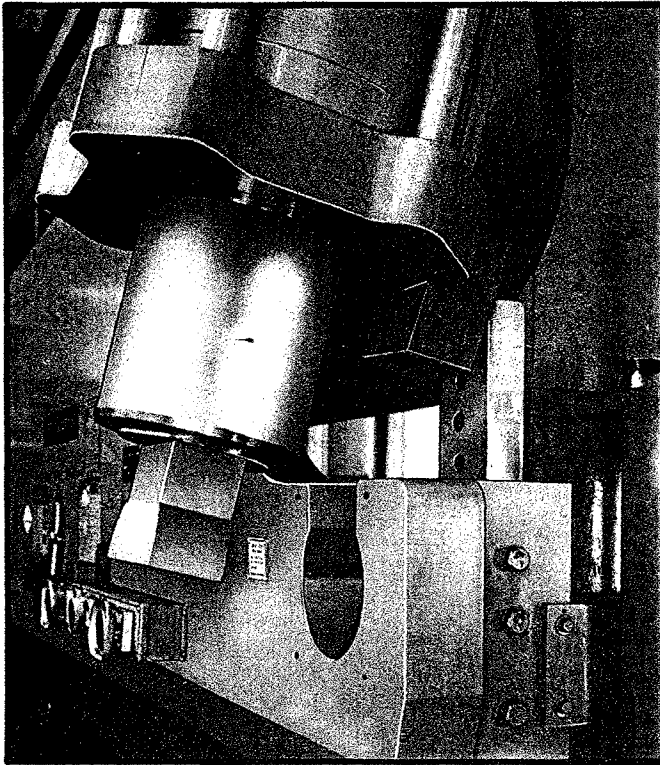

FIGURE 40
4. Swing cylinder out from ram. Insert wooden block between cylinder and housing so piston rod is clear of ram, Figure 40.